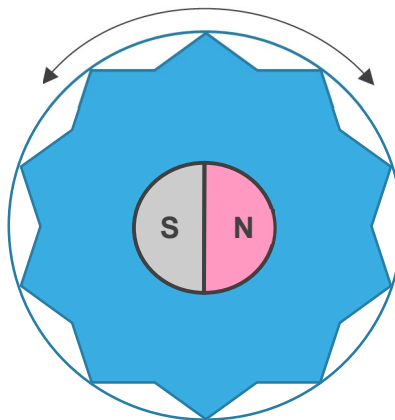
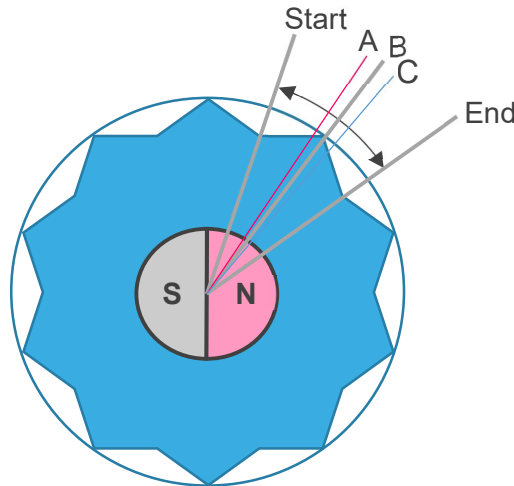

Figure 4.1 Discrete Mechanical Intervals
Figure 4.2 Interval UI Hysteresis
Figure 4.1 illustrates an example wheel with 10 intervals. The IQS62432 can be configured to generate an event on each interval. Configure the following registers for setup:
4. The interval register will increment every 36 degrees. If the wheel is zeroed using discrete mechanical intervals (Figure 4-1), half an interval should be added to the Wheel Zero Offset (0x7E-0x7F). With this offset, the interval register should increment when the wheel has moved half of the interval as shown by B in Figure 4.2.
A 1-degree hysteresis is applied in the direction of rotation, resulting in two degrees of hysteresis at the interval change. This reduces the influence of jitter. In Figure 4.2, the interval will increase when